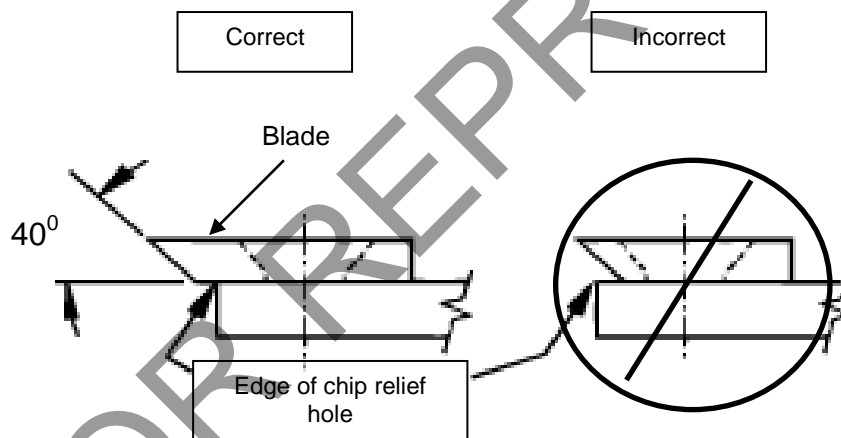

Fig. 9
3. Sharpen blade by lightly grinding the cutting edge of the blade at **40 degrees** (see Fig. 9 below). It is not necessary to remove all nicks from the cutting edge. **CAUTION:** Be careful to avoid heat buildup in the blade during sharpening. This will reduce its heat-treated hardness properties and will reduce blade life. Evidence of too much heat build-up is a change of color along the sharpened edge.
4. The same chipper blade can be sharpened several times. However, blade replacement is required when blade no longer overhangs the chip relief hole in the impeller back plate, or if increased vibration occurs (see Fig. 9).